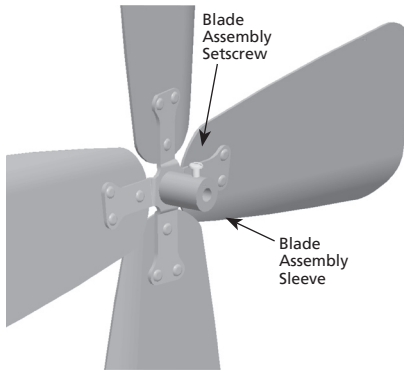

**FIGURE 8**
19. Loosen the three remaining Grille Mounting Screws. Align the three keyhole slots in the Back Grille with the three remaining Grille Mounting Screws in the Motor Face, and place the Back Grille onto the Motor Face, ensuring that the Grille Mounting Screw washers are between the screw head and the Back Grille. See Figure 8.